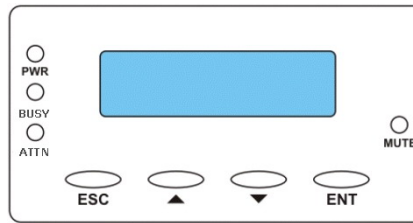

Figure 4-3: LCD Keypad Panel
The LCD keypad as shown in *Figure 4-3* consists of five (5) buttons, three (3) LEDs, and a 16x2-character LCD screen that provides access to firmware-embedded utility. Press the **ENT** button for two (2) seconds on the initial screen to enter the main menu. Press the **ESC** button to clear the current event.